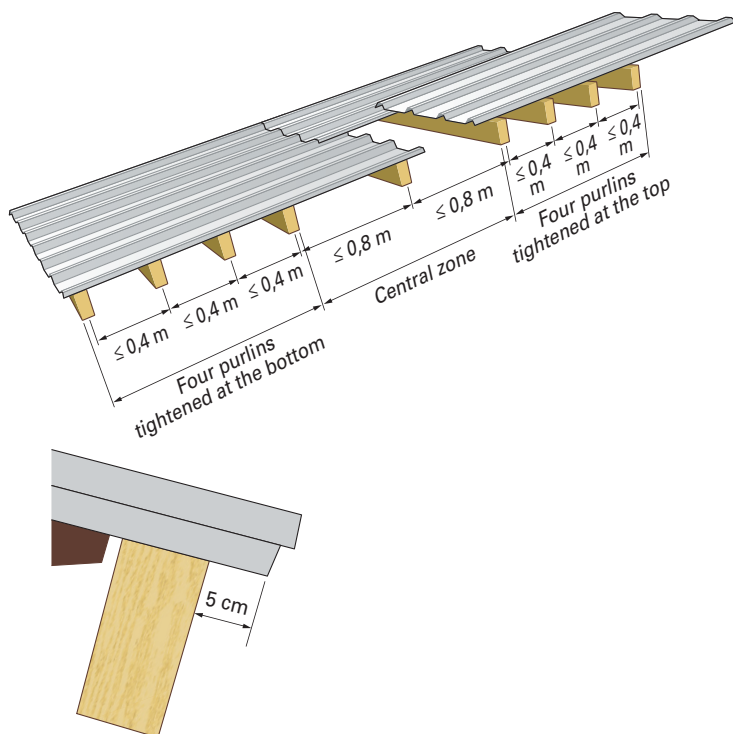

Figure 9: Arrangement on a frame built using purlins
- ✓ *Note: the optimal arrangement, ribbed sheeting on purlins, is shown in Figure 9. The sheets are steeper and the forces are transferred more directly onto the frame, resulting in increased robustness compared with other configurations.*